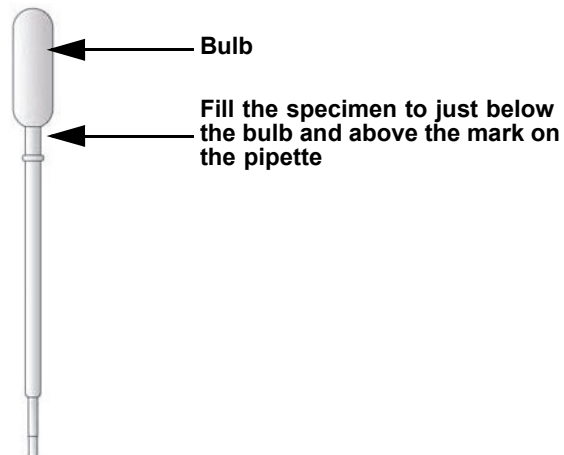
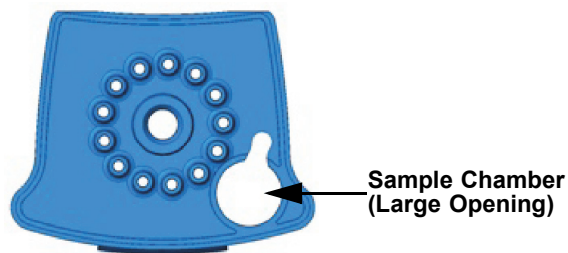

Figure 1. HCV VL Assay Transfer Pipette
Figure 2. HCV VL Assay Cartridge (Top View)
- **Option 1:** If using the transfer pipette included in the kit (Figure 1), fill to just below the bulb but above the line to transfer at least 1 mL plasma or serum from the collection tube into the sample chamber of the test cartridge (Figure 2). Do **NOT** pour the specimen into the chamber!
- **Option 2:** If using an automatic pipette, transfer at least 1 mL of plasma or serum into the sample chamber of the test cartridge (Figure 2). Do **NOT** pour the specimen into the chamber!